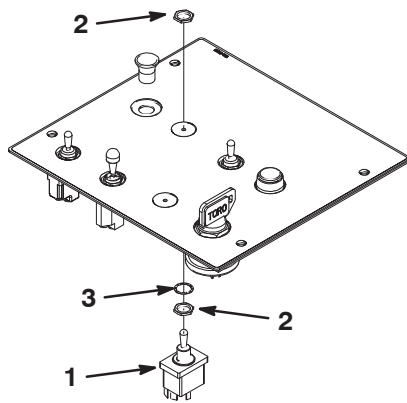

Figure 4
3. Install the toggle switch into the control panel so the terminals are positioning to the front (Fig. 4).